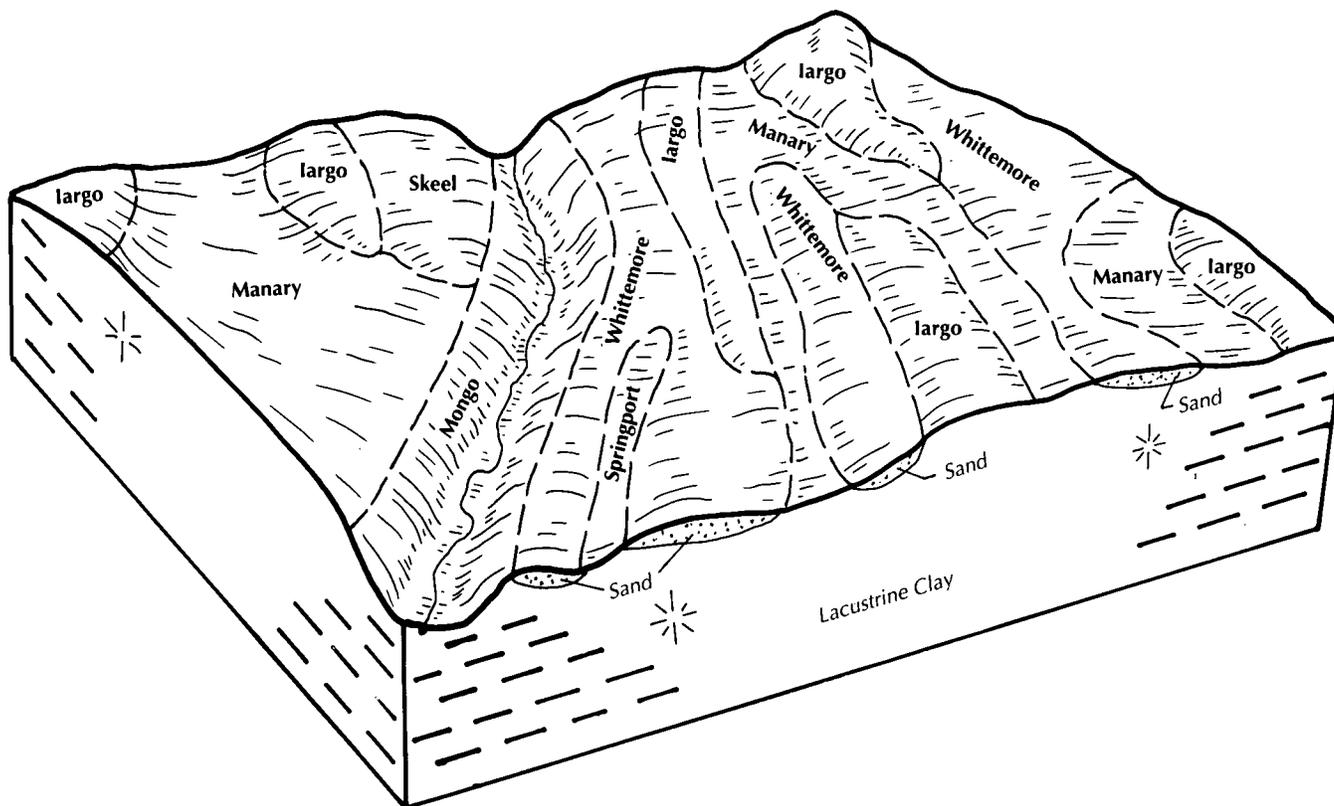

Figure 9.—Typical pattern of soils and landscape in the Manary-Whitemore-largo association.
*Extent of the soils in the association (fig. 9):*